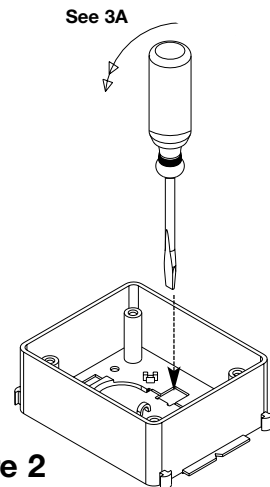

Figure 2
3. Remove Knockout: (See Figure 2).